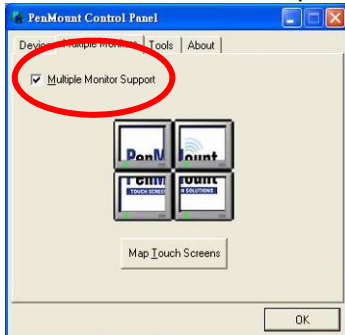

Fig.38
- In PenMount Control Panel, under Multiple Monitors tag, check the “Multiple Monitor Support” box. Then click “Map Touchscreens” to assign touch controllers to displays. (Fig.38)